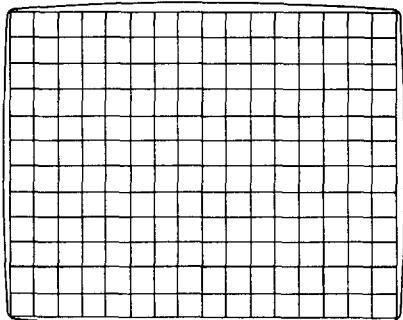

Figure 14. Crosshatch Pattern
2. Operate the computer in such a way that the entire screen is a crosshatch pattern (display period: 44.698  $\mu$ s horizontal, 14.33 mS vertical) on the center of the CRT screen. (Fig. 14)
2. Apply the crosshatch pattern (Fig. 14) from the computer to the display monitor. Observe spacing between lines around the edges of the CRT.